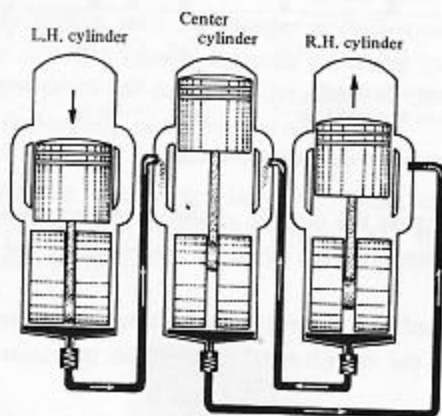
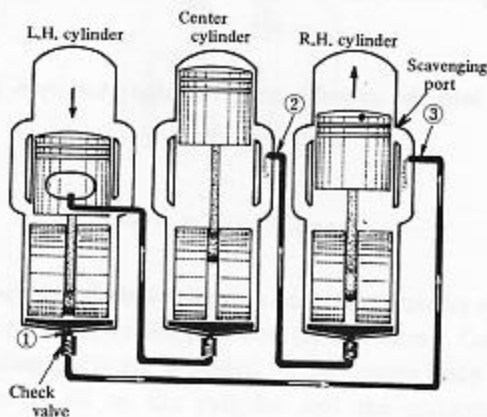

Fig. 6-12 SRIS type 1
Fig. 6-13 SRIS type 2
The construction of SRIS (Suzuki Recycle Injection System) is so made that oil accumulating in the crankcase bottom is forced into the scavenging ports of adjacent cylinders through the rubber pipes with the help of positive and negative pressures induced by each cylinder. A check valve is fitted to the outlet of the crankcase lower part in order to prevent the reversion of oil flow. There are two piping forms for this SRIS, the one shown in Fig. 6-12 has been equipped on the machines from the first production, and the other shown in Fig. 6-13 is modified type for later model.
To take the later type (Fig. 6-13) for example, it is understood that when the piston on the left hand cylinder moves downwards, its crank chamber is subjected to a positive pressure, moving the oil outside of its outlet port ①.